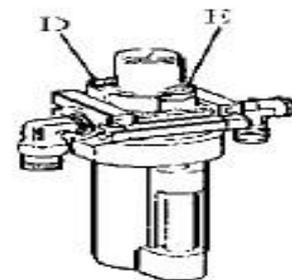

Fig15
Unscrew with hex wrench (E). Based on connection of compressed air, first to tread Jaws open and close Pedal or Turntable Rotation Pedal 5-6 times, and then check whether oil in Oil Fog Maker drops down a drip of oil. For continuous operation, tread twice every time, drop down a drip of oil, otherwise adjust the screw (D) that controlled oil enters with minus screwdriver. (Fig15)